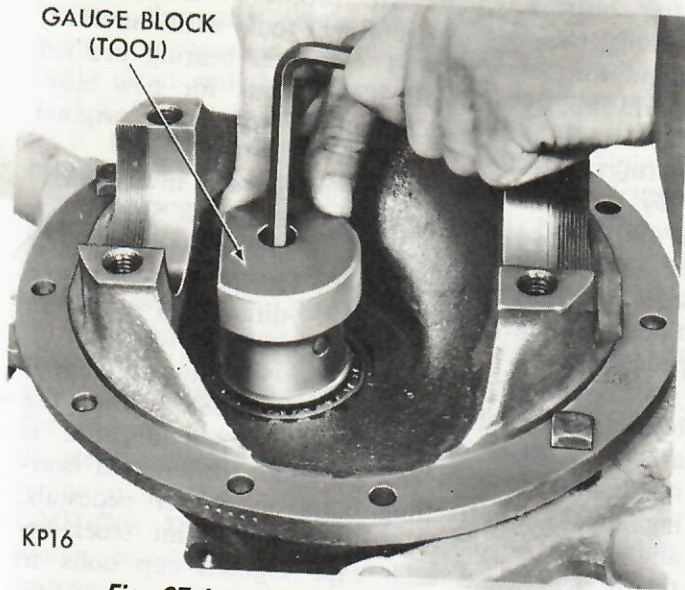

Fig. 27 Installing Gauge Block on Tool
(1) Reverse carrier in stand and install gauge block SP-528 on end of tool and secure it to tool with Allen screw. The flat portion of gauge block should be facing differential bearing pedestals (Fig. 27). Tighten screw with Allen wrench.
(5) With proper bearing preload set, invert carrier in stand and install gauge block SP-528 or SP-3250 to the main screw attaching it with Allen screw securely (Fig. 27). The flat portion of gauge block should be facing differential bearing pedestals.